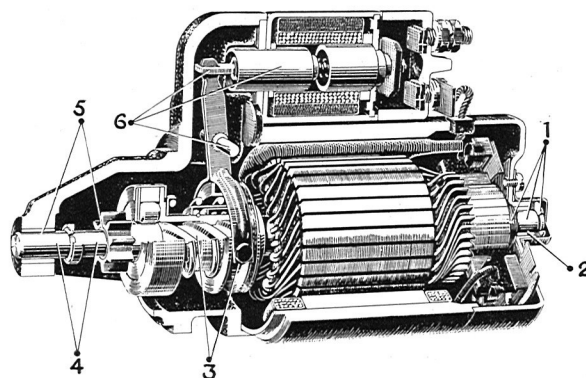

Fig. 3-93. Lubricating scheme for starter motor
1. Lubricate the parts of the starter motor according to Fig. 3-93.